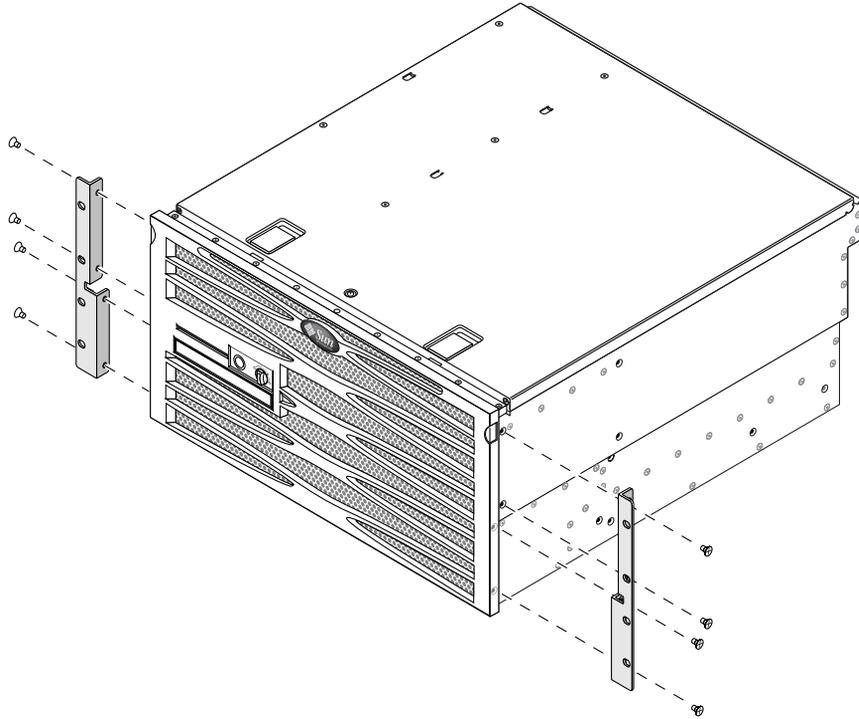

FIGURE 3-16 Securing the Hardmount Brackets to the Server
2. Using eight of the supplied M5 × 8 mm flathead Phillips screws (four screws for each bracket), secure the front hardmount brackets to the sides of the server (FIGURE 3-16).